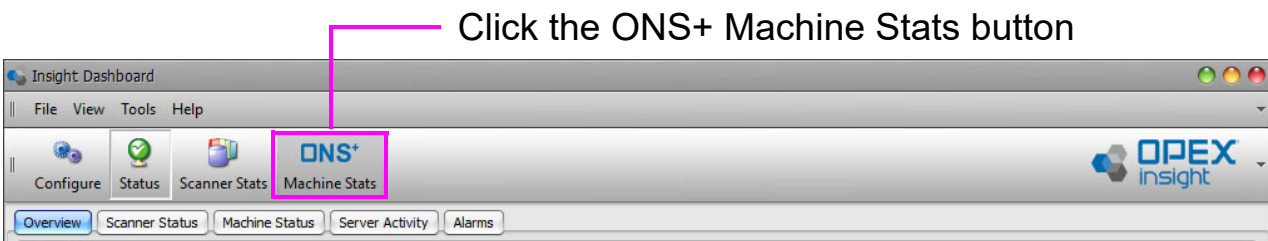

Figure 5-3: Insight Dashboard window
2. Click the **ONS+ Machine Stats** button (Figure 5-3).